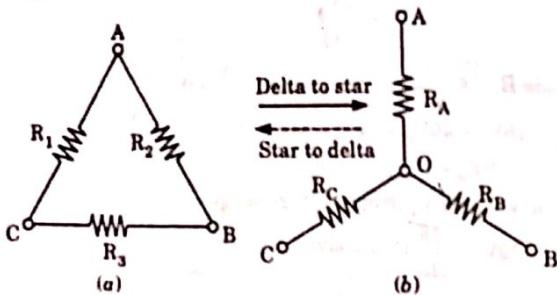

Fig. 1.13.1. Delta to star transformation.
Three resistances connected as shown in Fig. 1.13.1(a), are said to be delta connected.
2. Three resistances connected together at a common point O , as shown in Fig. 1.13.1(b) are said to be star (Y) connected.